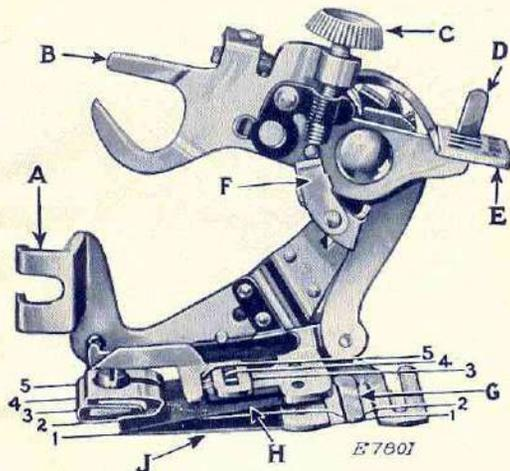
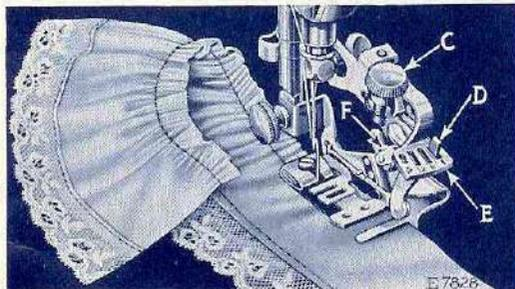
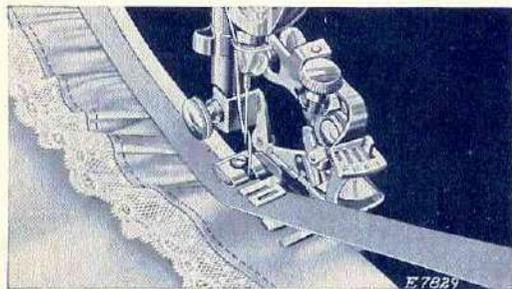
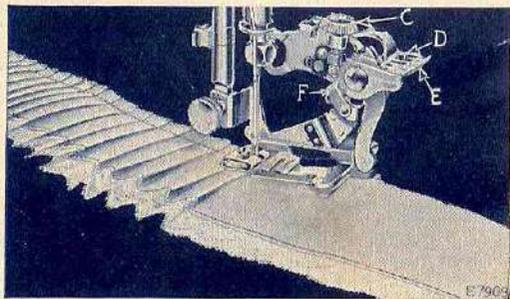

FIG. 26. THE RUFFLER AND ITS PARTS
FIG. 27
FIG. 29
Fig. 31
Lines 1, 2, 3, 4 and 5 shown in Fig. 26 indicate where the material is to be placed for various operations, as follows:
(SEE REFERENCES IN FIG. 26)
Raise the needle bar to its highest point and remove the presser foot. Attach the ruffler foot (A, Fig. 26) to the presser bar by means of the thumb screw, at the same time placing the fork arm (B, Fig. 26) astride the needle clamp as shown in Fig. 27.
The adjusting finger (F, Fig. 27) is not intended for gathering and should be moved forward or away from the needle, as shown in Fig. 27.
Raise the adjusting lever (E, Fig. 27) and move it to the left so that the projection (D, Fig. 27) will enter the slot marked "1" in the adjusting lever (E) when the lever is released. The ruffling blade will then move forward and back once at every stitch. Insert the material to be ruffled between the two blue blades, following the line 2 in Fig. 26. Draw the material slightly back of the needle, lower the presser bar and commence to sew.
To make fine gathering, shorten the stroke of the ruffling blade by turning the adjusting screw (C, Fig. 27) upwardly, also shorten the stitch. To make full gathering, lengthen the stroke of the ruffling blade by turning the adjusting screw (C) downwardly, also lengthen the stitch. By varying these adjustments, many pleasing varieties of work can be accomplished.
2, in Fig. 26. Place the garment to which the ruffle is to be attached, under the separator blade, following the line 1, in Fig. 26. Proceed the same as for gathering.
Insert the material to be ruffled between the two blue blades, following the line 2, in Fig. 26. Place the garment to which the ruffle is to be attached, under the separator blade, following the line 1, in Fig. 26. Place the material for the facing over the upper blue blade, as shown in Fig. 29, following the line 3, in Fig. 26. The facing may be straight
Insert the material to be ruffled between the two blue blades, following the line 2, in Fig. 26. This
The material for piping must measure about $\frac{1}{4}$ inch wide when folded in the centre and is usually cut on the bias. Place the piping material in the ruffler, following the line 4, in Fig. 26, with the folded edge of the piping to the right. The material to which the piping and ruffling are to be sewn should be folded on the edge and inserted in the ruffler, following the line 5, in Fig. 26.
Raise the adjusting lever (E, Fig. 31) and move it to the right so that the projection (D, Fig. 31)
will enter the slot marked "6" in the adjusting lever when the lever is released. The ruffling blade will then move forward and back once at every six stitches. To adjust the ruffling blade to make a plait once at every twelve stitches, place the adjusting lever (E, Fig. 31) so that the projection (D) enters the slot marked "12" in the adjusting lever. Insert the material to be plaited between the two blue blades, following the line 2, (Fig. 26). The size or width of plaits is regulated by the adjusting screw
(C, Fig. 31) and the adjusting finger (F, Fig. 31). To make a wider plait, move the adjusting finger (F) back or toward the needle and turn the adjusting screw (C) downwardly. To make a smaller plait, turn the adjusting screw (C) upwardly. The distance between plaits is regulated by the length of stitch.